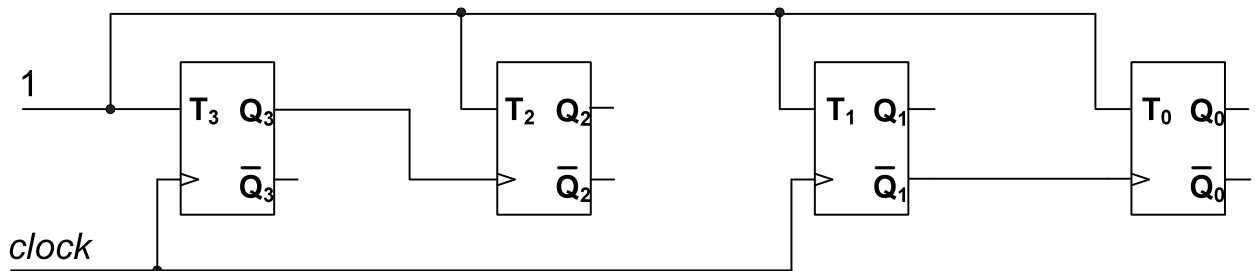

Figure 6 - Circuit for question 11 (note, the flip-flops are *positive edge* triggered).
11. In Figure 6, if the current state is $Q_3Q_2Q_1Q_0=1111$, then after the next *positive edge* of the *clock* signal the new state will be: